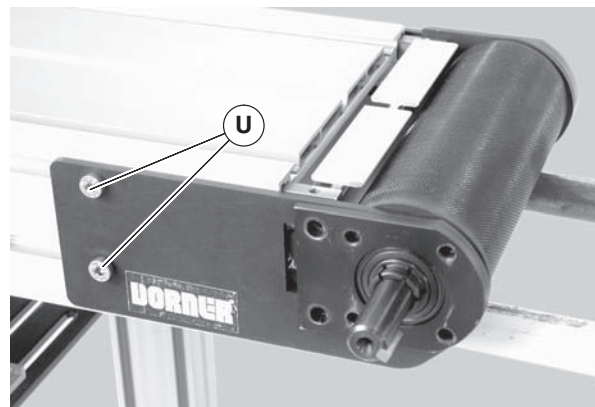

**Figure 60**
4. Loosen the bearing collar set screw (Figure 60, item CB) and remove bearing collar (CC). Repeat on drive shaft side of pulley (Figure 61, item CB & CC).